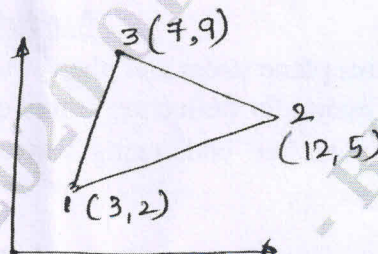

Fig.6(b)
- b. Determine the Jacobian for  $x, y$  and  $\xi, \eta$  transformation for a triangle element whose co-ordinates are node 1(3, 2), node 2(12, 5) and node 3(7, 9) also find area of the triangle as shown in Fig.6(b). (06 Marks)